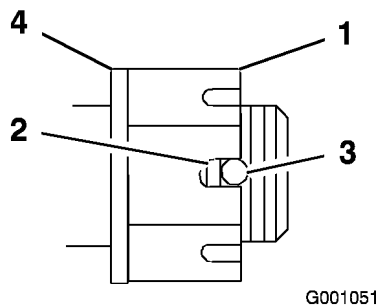

Figure 45
4. Torque the slotted nut to 125 ft-lb (170 N•m) (Figure 45).
5. Check the distance from bottom of slot in nut to inside edge of hole. Two threads or less should be showing (Figure 45).
7. Torque the slotted nut to 125 ft-lb. (170 N•m) (Figure 45).
8. Tighten the nut until the next set of slots line up with the hole in the shaft (Figure 45).